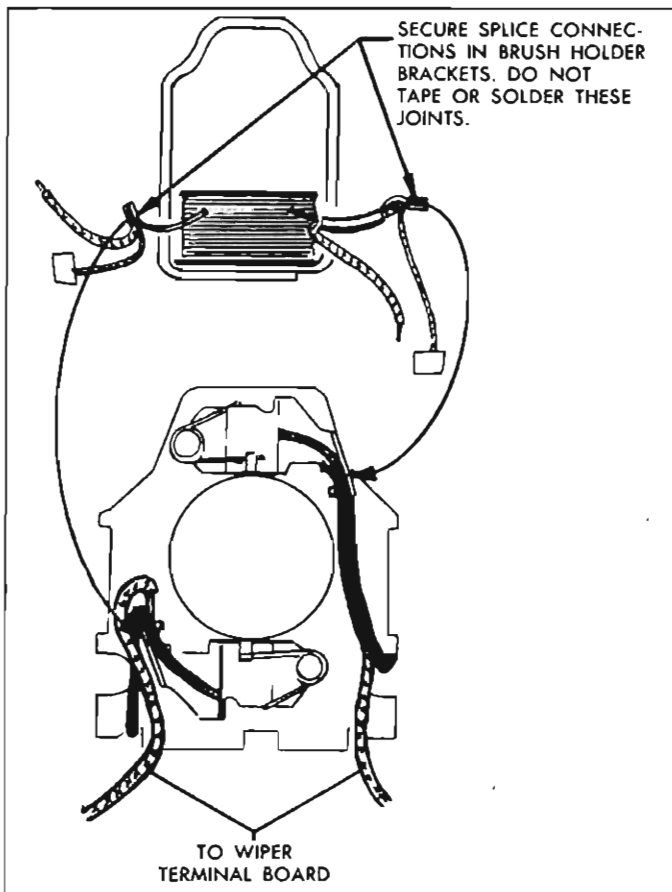
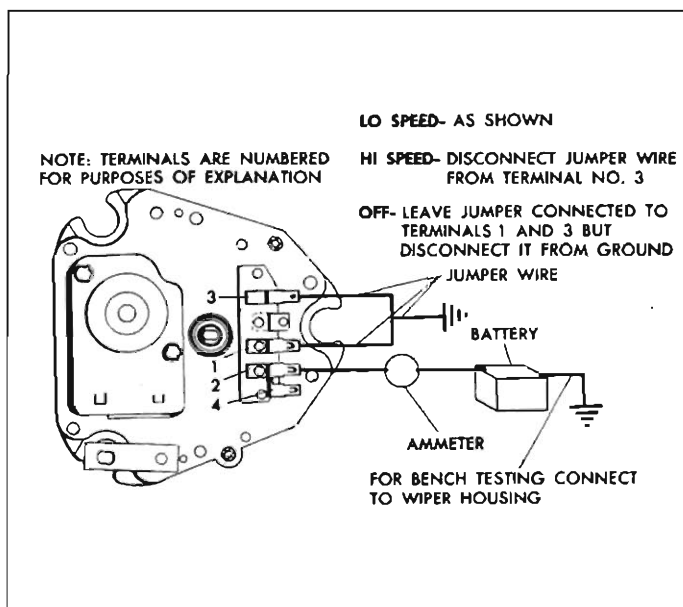

Fig. 8-21—Checking Motor Splice Connections
Fig. 8-22—Checking Two-Speed Wiper Circuit
0	(1) Loose solder connection at wiper terminal No. 2 (Fig. 8-22). (2) Loose splice joints (Fig. 8-21).